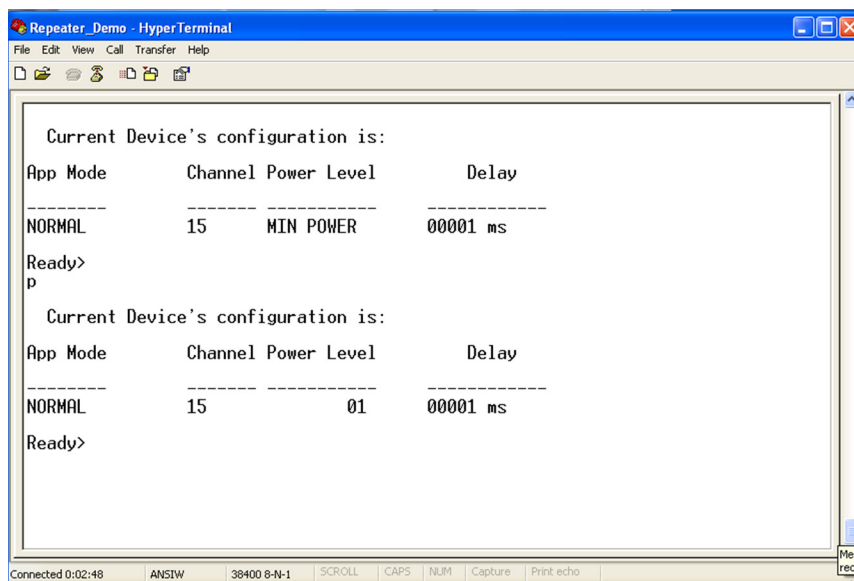

Figure 6-6. Change Output Power
- Type “p” to change the transceiver output power. As shown in Figure 6-6, the power increases each time “p” is typed until the maximum value is reached. (0 to 14) When the maximum value (14) is reached, it resets to the minimum value (0) and begins increasing again. See the appropriate device reference manual for details about the power settings.